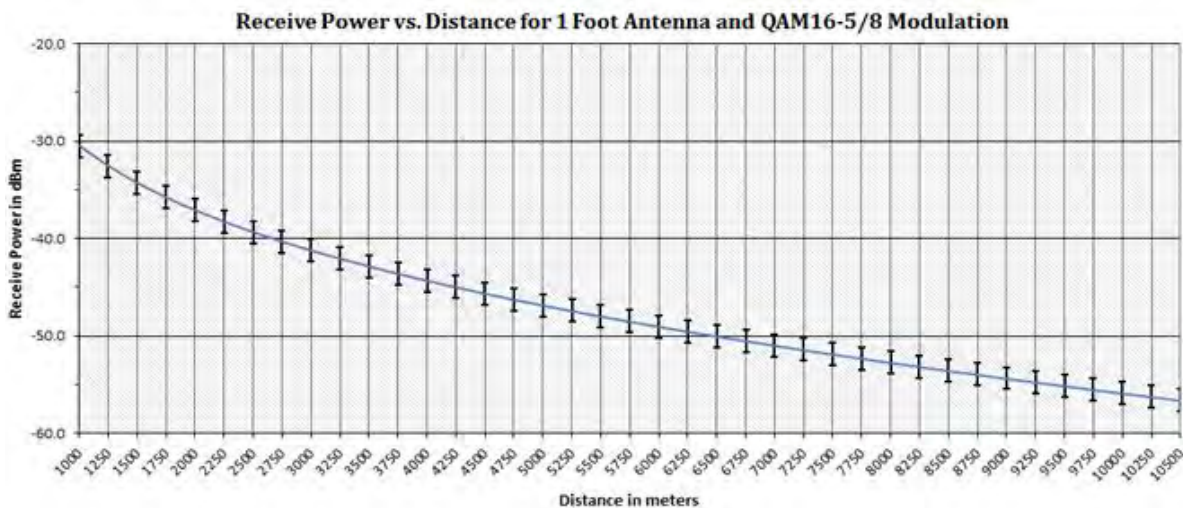

Figure 5-18: Typical AireLink 80 RSSI vs. Distance Charts for 1 foot antenna
17. When aligning the system, it is important to take a look at the Receive Signal Strength using either a voltmeter attached to the alignment voltage connector located at the side of the radio housing, or using the LightPointe BLE Tool and Observe the RSSI value shown in the radio submenu. The RSSI chart in Fig. 5-18 shows the RSSI signal voltage as a function of the deployment distance under ideal and clear weather conditions and with 1 foot antenna attached to the radio. Therefore, and when the system is installed under non-clear weather conditions, the values can be lower during the actual installation process. The RSSI values are slightly different for the low band and the high band radio and, in addition, the values vary slightly and within a few percent from one radio system to another due to manufacturing tolerances. However, the chart provides a very good indication of expected RSSI values as a function of deployment distance. RSSI chart for the 2 foot and 3 foot antenna can be found on pages 40/41. The overall goal of the alignment process is to align the system as close as possible to the RSSI value provided in the RSSI chart. The RSSI voltage reading in Volt corresponds to the RF RSSI signal reading in dBm. In other words, and with the correct polarity chosen, a system that is not aligned at all will show a negative voltage reading close to -0.80 Volt and this translates into a -80 dBm power reading. This signal level is far too low to establish a data connection. During the alignment process the voltage reading will increase, **meaning “less negative” voltages or higher RF RSSI reading in dBm will be recorded. The goal is to align the system at its best possible and highest RSSI reading (e.g. increase the voltage reading.** When using the *Lightpointe BLE Tool*, the RSSI reading is given in dBm directly.